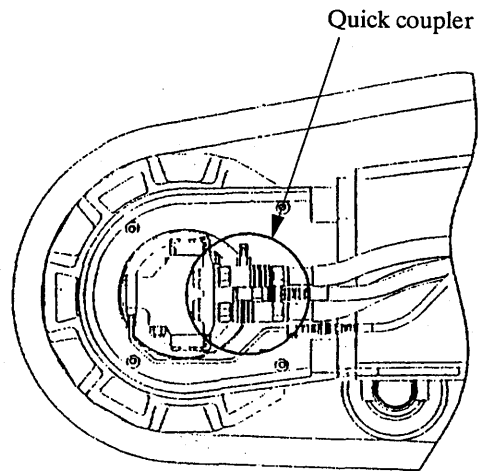

Fig. 11-38
- (11) Disconnect the right and left hydraulic hoses for travel at the quick coupler section (4 pos. on one side). (Fig. 11-38)